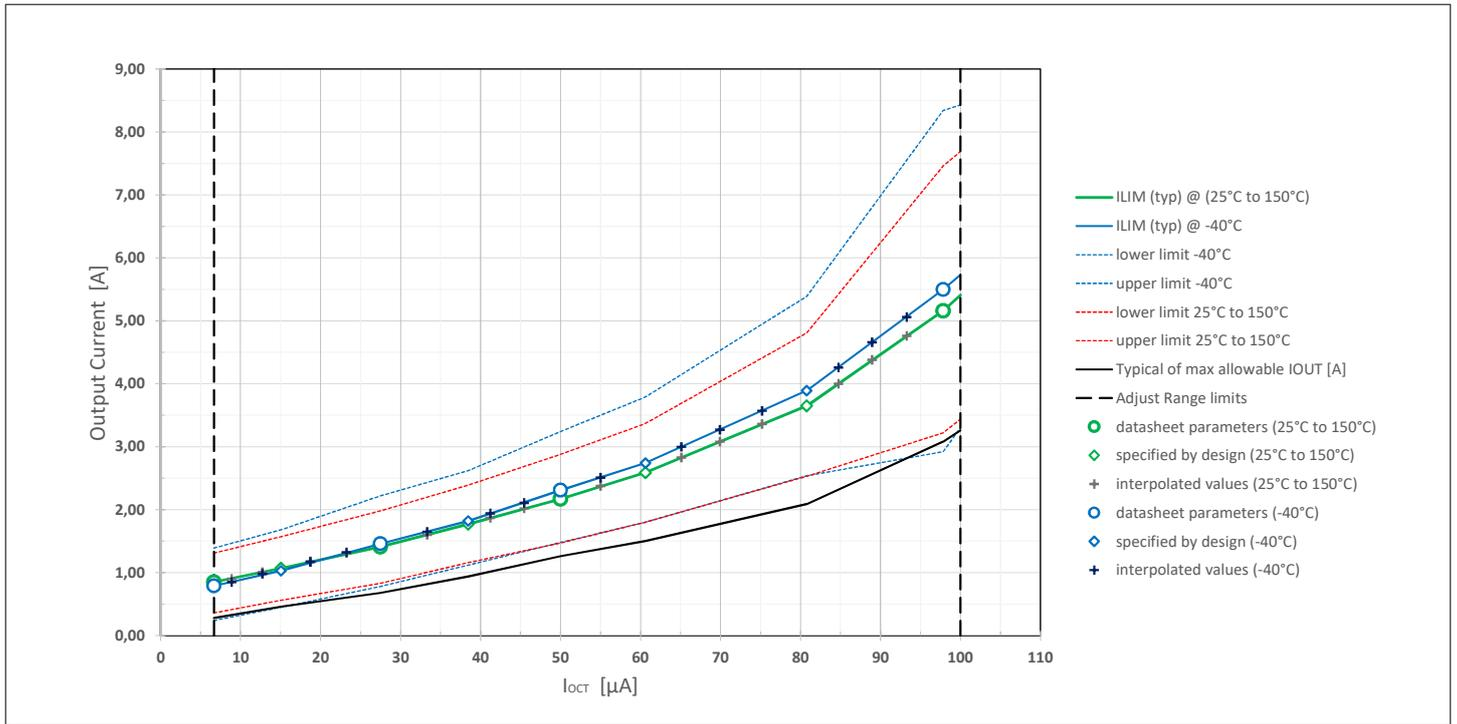

Figure 27 Current limitation threshold $I_{LIM(th,adj)}$ as function of I_{OCT} and related limitation values for different temperatures
Table 11 below indicates which resistor value R_{OCT} needs to be soldered between OCT-pin and device GND to obtain a desired current limitation threshold $I_{LIM(th,adj)}$. The adjusted current limitation threshold is defined for ambient temperature ($T_j = 25^\circ\text{C}$) and hence, these values coincide with the typical values of the current limit at 25°C . Table 11 provides an overview of the related minimum and maximum values of the current limit. The column “Typical of maximum allowable I_{OUT} [A]” provides information about the required distance of the output current to the adjusted current limit setting in order to avoid unwanted activation of the current limitation circuit during normal operation. This clearance needs to be respected for the nominal load current of a given application and represents an upper limit for the allowable nominal load current³⁾. As the typical values of a selected current limit do not vary significantly from $T_j = 25^\circ\text{C}$ up to $T_j = 150^\circ\text{C}$ for most of the I_{OCT} - settings the given maximum and minimum values of the current limit listed in Table 11 hold true for the temperature range $25^\circ\text{C} \leq T_j \leq 150^\circ\text{C}$. Deviations that have to be expected for the typical values of the current limit at 150°C can be seen in Figure 27.
Figure 27 moreover illustrates how the current limitation values will shift for low temperatures. Table 11 provides typical values for the current limitation for the extreme case of $T_j = -40^\circ\text{C}$ and an overview of corresponding minimum and maximum values for the current limitations.
- 1) $I_{LIM(th,adj)}$ values coincide with typical values of the current limit I_{LIM} @ 25°C . Typical values for I_{LIM} @ 150°C may show deviation from $I_{LIM(th,adj)}$; see Figure 27 for further details